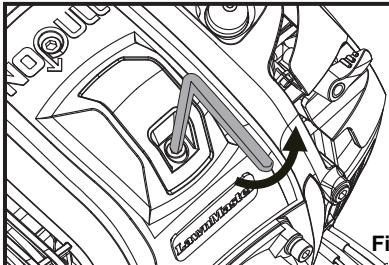

Fig. 43
- Remove the spark plug cover using the provided hex wrench (Fig. 43).